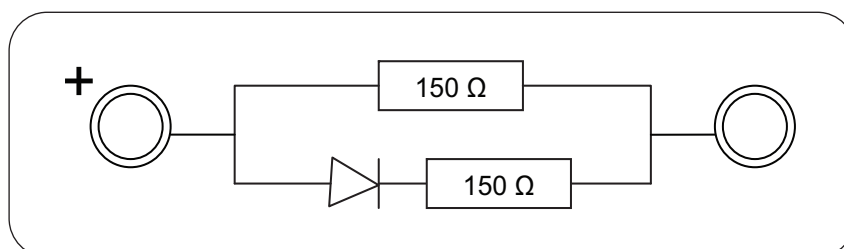

Fig. 2.1
- Solder the diode to a 150 Ω resistor so they are in series and solder both into the channel so that the diode anode is attached to the LH socket (viewed from the outside). Solder a second 150 Ω resistor in parallel with the diode and the first 150 Ω resistor. Label this component channel 'Q'. Mark the LH socket '+' and use masking tape to cover the resistors and diode so that they cannot be seen. See **Fig. 2.1**.